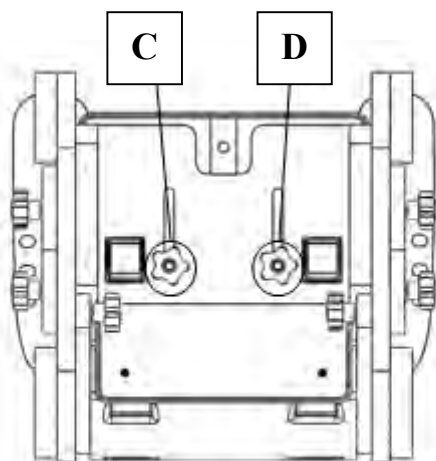

Figure 2
- Loosen handwheels (*Ref. C and D of Figure 2*)
- Tighten handwheels (*Ref. 6 of Figure 2*) when the seat depth is set to the desired position.